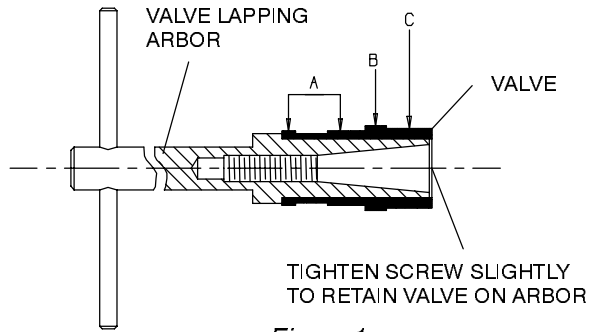

Figure 1
1. An oversize Valve (2) must be lapped into the Valve Box. Use Grade 320 lapping compound and proceed as follows:
- a. Install the Valve on the No. 29189 or No. 29407 Valve Lapping Arbor as shown in Figure 1.